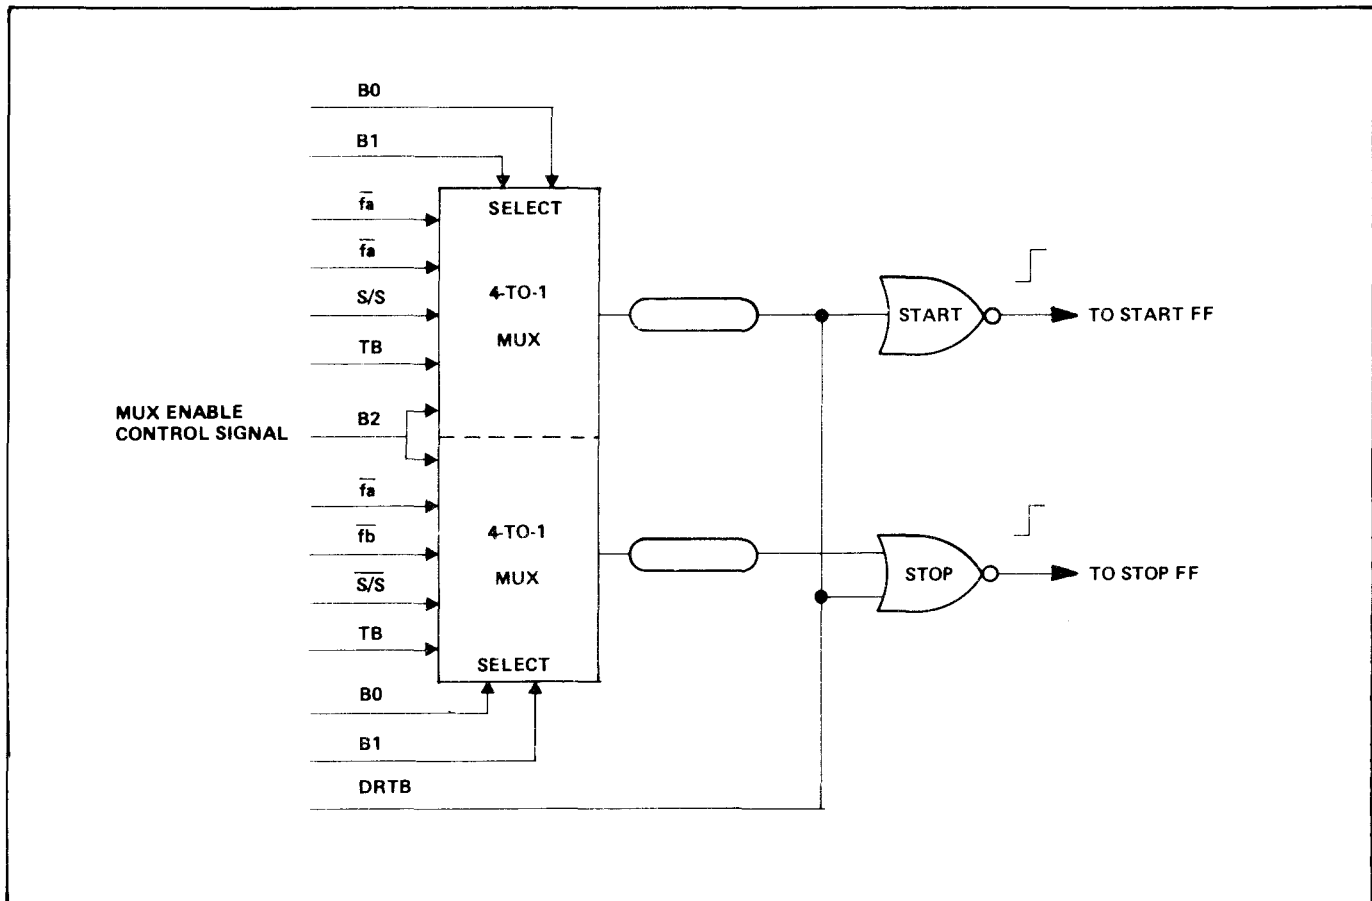

Figure 1.24 - Measurement Gate Input Control
1.4.12.2 Four of the input signals are applied to a dual four-to-one multiplexer in each channel. See figure 1.24. The multiplexers that select the signals for starting and stopping the gate are under control of signals B0 and B1 (reference table). In the frequency measurement modes, the dual 4-to-1 is disabled by B2 and the signal DRTB is activated to provide the gate timing. The signals selected to start and stop the gate are applied to the clock inputs of the start and stop flip-flops respectively.